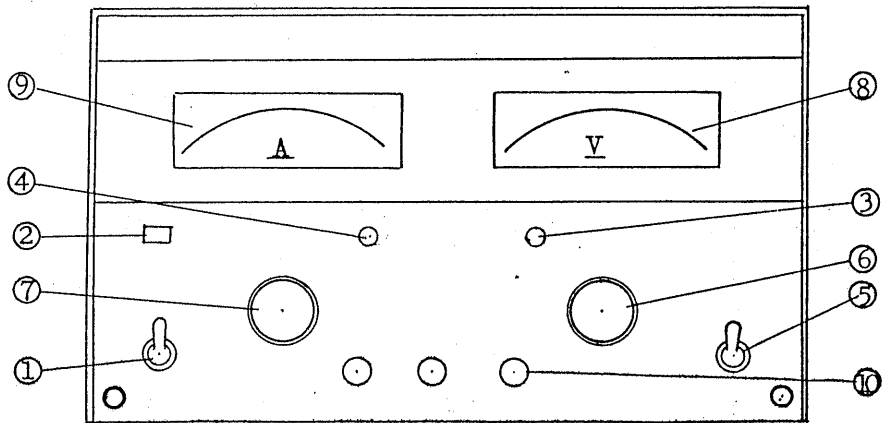

Fig. 1 Front Panel
3.1 Explanation of Panel (See Fig. 1.)